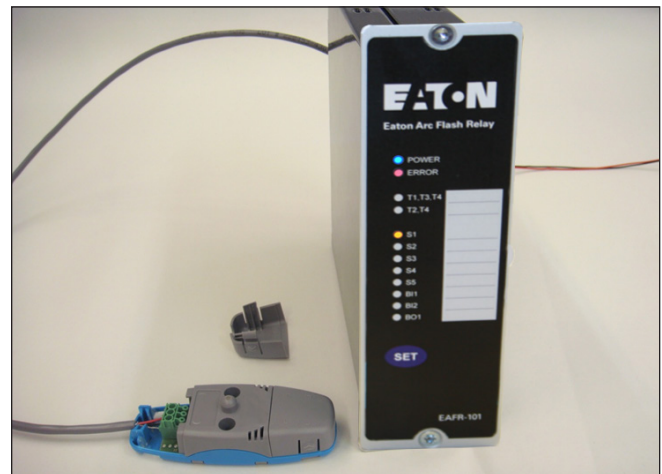

Figure 12. EAFR-01 sensor connection step 6.
6. After connecting the sensor to the relay, the ERROR LED turns on, and the appropriate sensor channel LED starts to blink (e.g. S1 LED) (see Figure 12).